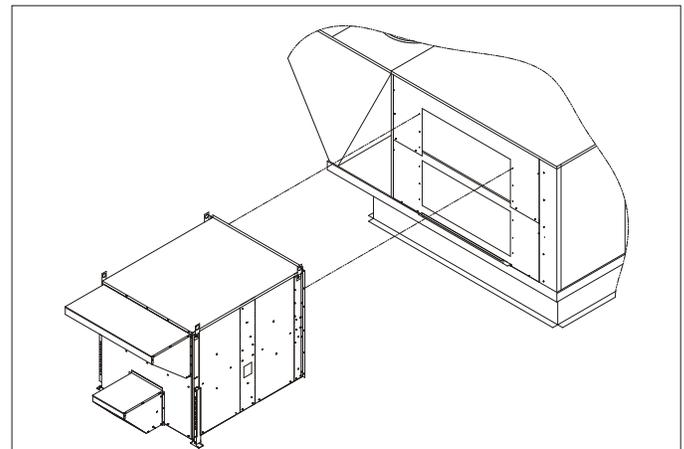

Figure 12
1. Lift and move ERS unit into position in front of horizontal exhaust air opening. **See Figure 12.**
5. Secure ERS to RTU with provided 10-16 x $\frac{1}{2}$ " gold screws through ERS side flanges to door filler panels installed earlier. **See Figure 12.**